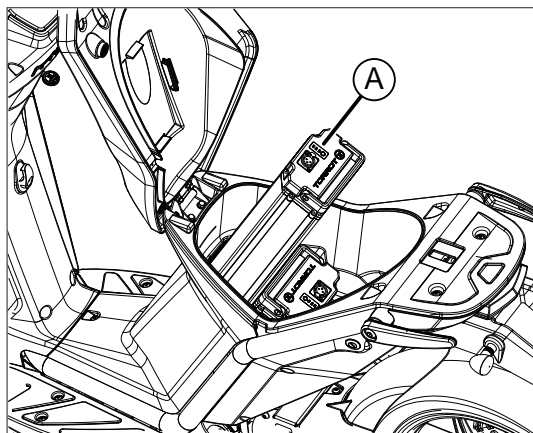

fig. 4
- loosen the velcro strap and remove the electric vehicle battery A from its seat fig. 4.